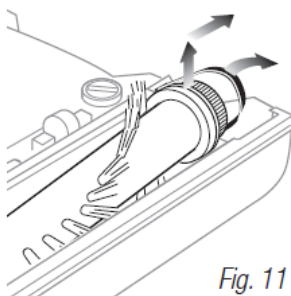

Fig. 11
5. Carefully lift and remove the brushbar from the belt. (Fig. 11) To reinsert the brushbar, slide the brush bar into the bushing and then place the belt over the ridges of the brushbar cap. Replace the trap door and lock in place.